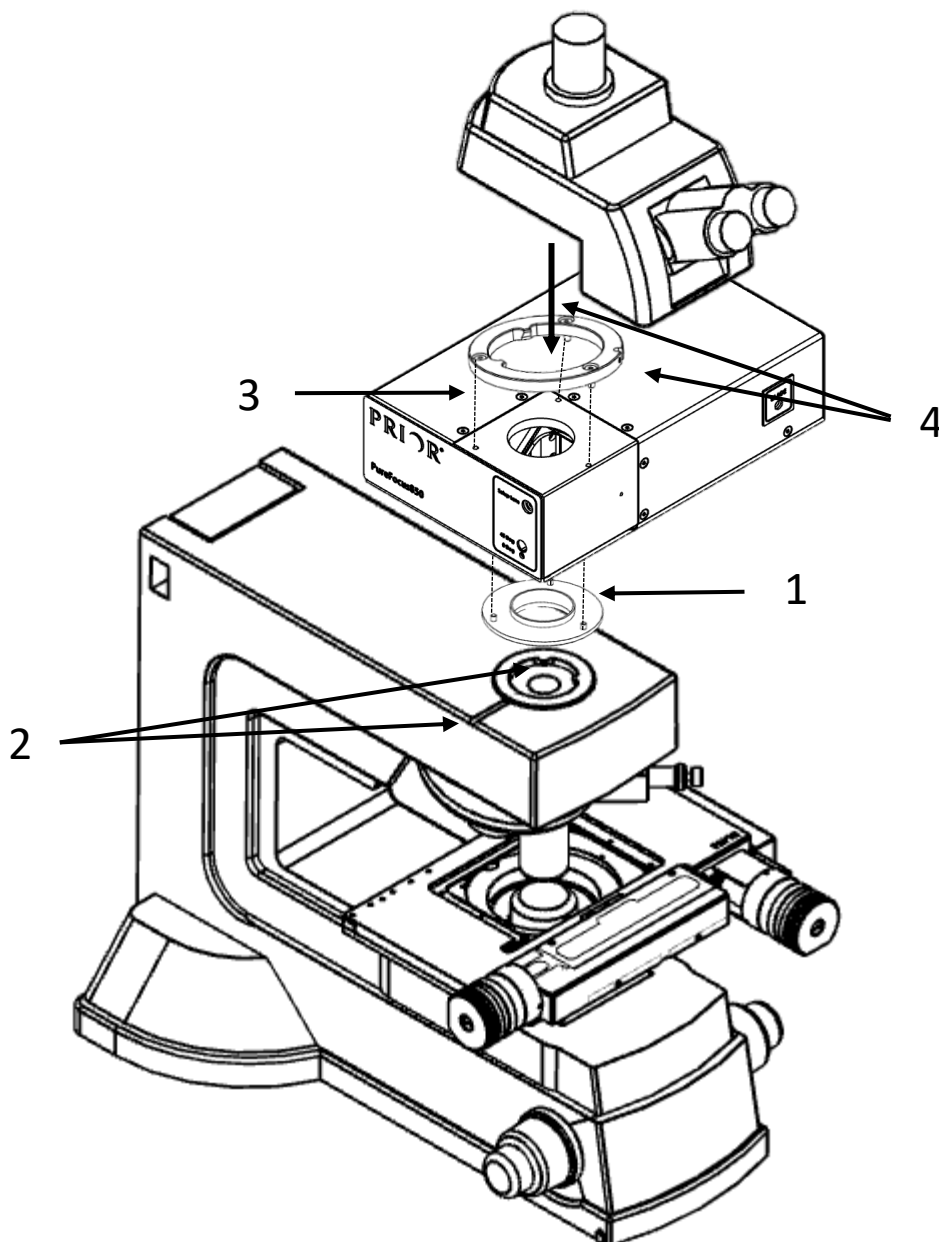

Fig 2: Installing LF320 onto the Nikon L200 microscope
1. Attach the lower dovetail (LF527) onto the bottom of the PF850/PF850M using the 3 x T173 screws (as shown on Fig 2).
2. Attach the PF850 to the microscope objective arm dovetail and secure it tightly using grub screw provided on the microscope. (as circled in Fig 2)
3. Attach the LF526 (Upper dovetail flange) on top of the PF850 using the 3 x T123 screws (as shown in Fig 2)
4. Secure the eyepiece by tightening the T91 screw on the upper dovetail (as circled on Fig 2)